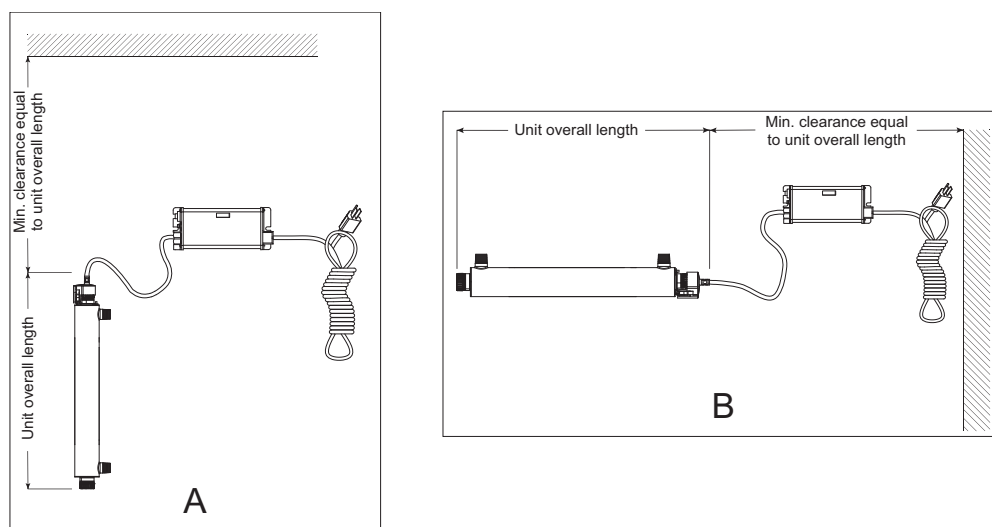

Figure 3 Disinfection Installation - Vertical and Horizontal
2. Select a suitable location for the disinfection system and its related components. As it is recommended to install a GFCI, make sure that this is taken into consideration prior to any installation. The system can either be installed vertically (inlet port at the bottom) as shown in Figure 3 A, or horizontally as shown in Figure 3 B. However, the vertical installation is the most preferred method. When selecting a mounting location, leave enough space to allow the removal of the UV lamp and/or quartz sleeve (typically leave a space equal to the size of the UV chamber itself).